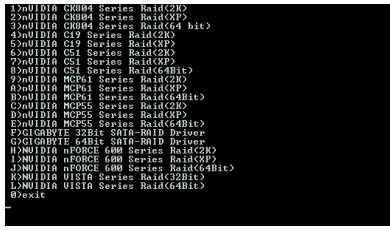
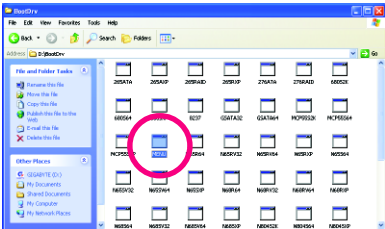

Figure 2
Figure 3
Step 2: When the controller menu (Figure 2) appears, remove the startup disk and insert the blank formatted disk. Select the controller driver by pressing the corresponding letter from the menu. In the example in Figure 2, the **nVIDIA MCP61 Series Raid** series are for the nVIDIA® GeForce 6100/nForce 405 chipset. For example, to install Windows XP (32-bit) onto the RAID drives, press <A> to select **A) nVIDIA MCP61 Series Raid(XP)**. The **B)nVIDIA MCP61 Series Raid(64Bit)** is for Windows XP 64-bit and **9)nVIDIA MCP61 Series Raid(2K)** for Windows 2000. Your system will then automatically zip and transfer this driver file to the floppy disk. Press <0> to exit when finished.
(Note) For users without a startup disk: Use an alternative system and insert the motherboard driver disk. From your optical drive folder, double click the **MENU.exe** file in the **BootDrv** folder (Figure 3). A command prompt window will open similar to that in Figure 2.